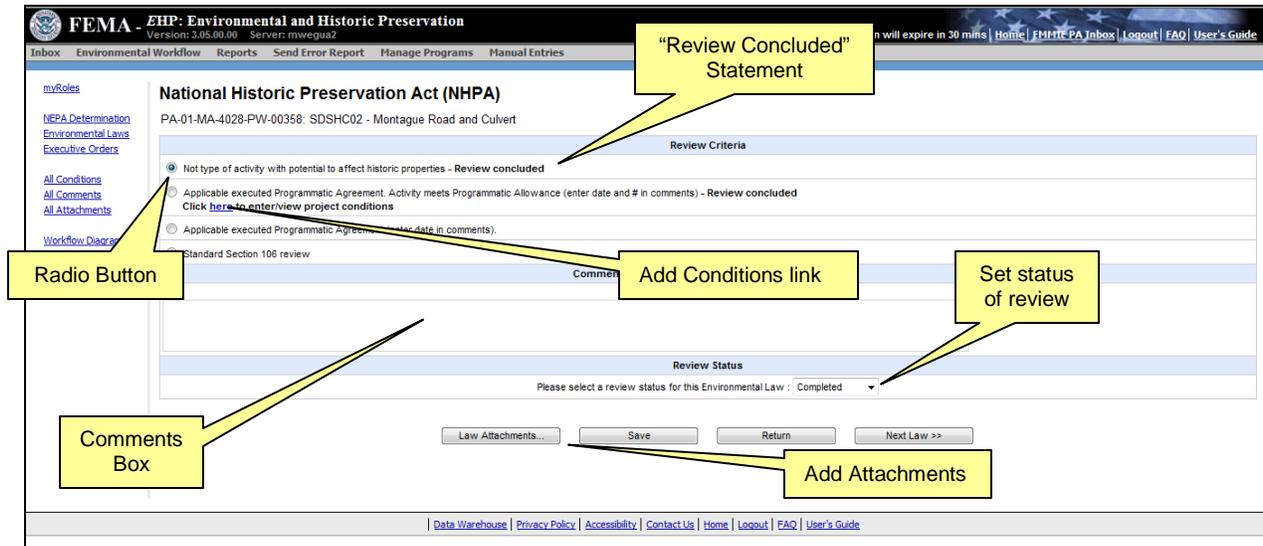

Figure 3.8: National Historic Preservation Act (NHPA) review screen
- Click on the **Click here** link shown in Figure 3.8 above